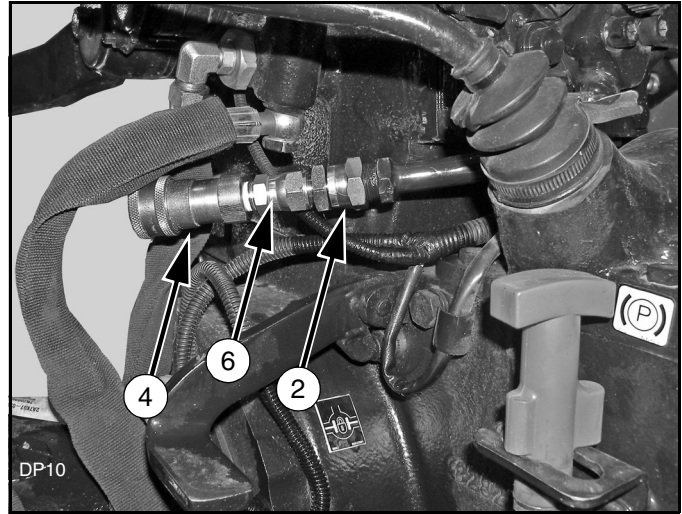

Figure 13. Hydraulic Fitting Installed
2. Attach adapter (2), adapter (6) and female quick coupler (4) to the hydraulic hard line (Figure 13).
3. Attach adapter (3), adapter (6) and male quick coupler (5) to the PBY hose from the loader control valve.